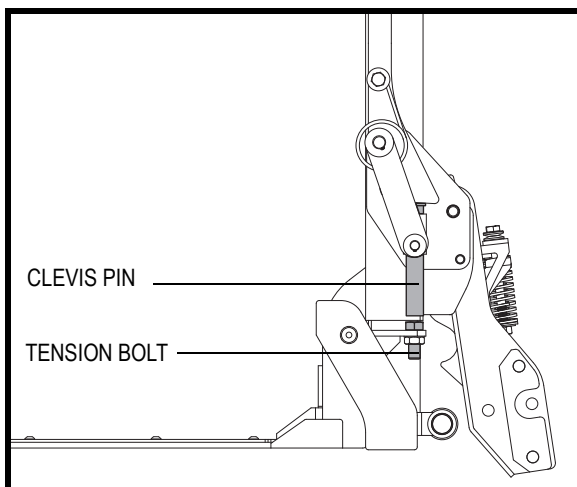

Figure 5. Tension Bolt and Clevis Pin Adjustment
9. Adjust the tension bolt on the H-frame that actuates the lock-down arm clevis pin. This adjustment should compress the spring on the lock-down arm pivot foot to ensure proper securement of the product when in the stowed position. See figure 5.